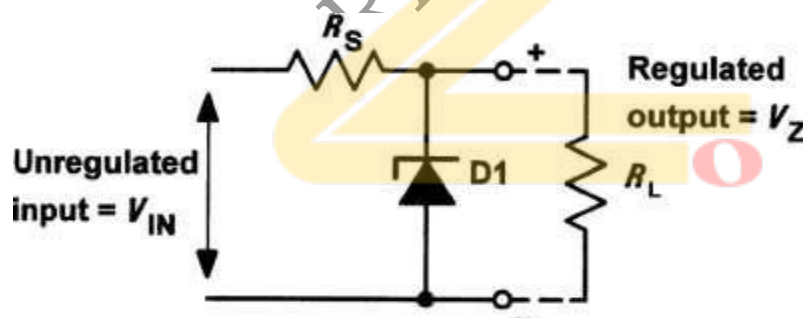

Figure 1.16 A simple shunt Zener voltage regulator
- A simple voltage regulator is shown in Fig. 1.16.